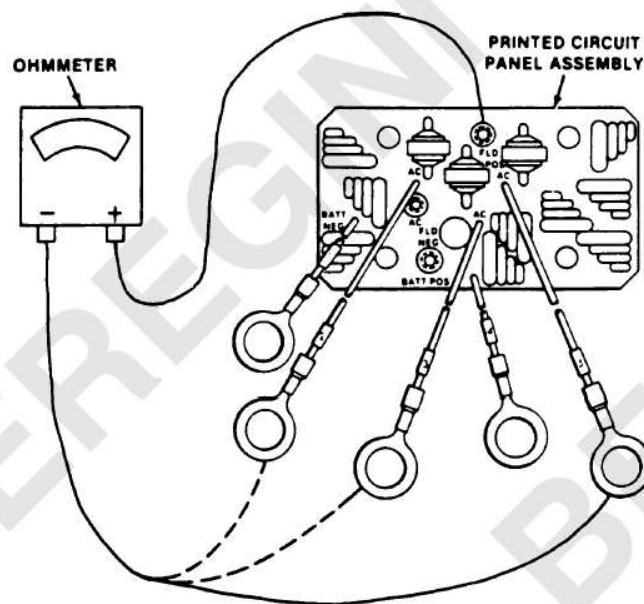

Figure 2-7. Shorted Printed Circuit Panel Assembly Diode Check.
- Step 9. Check for shorted diodes on printed circuit panel assembly. Connect ohmmeter to each of the three long black leads according to figure 2-7.